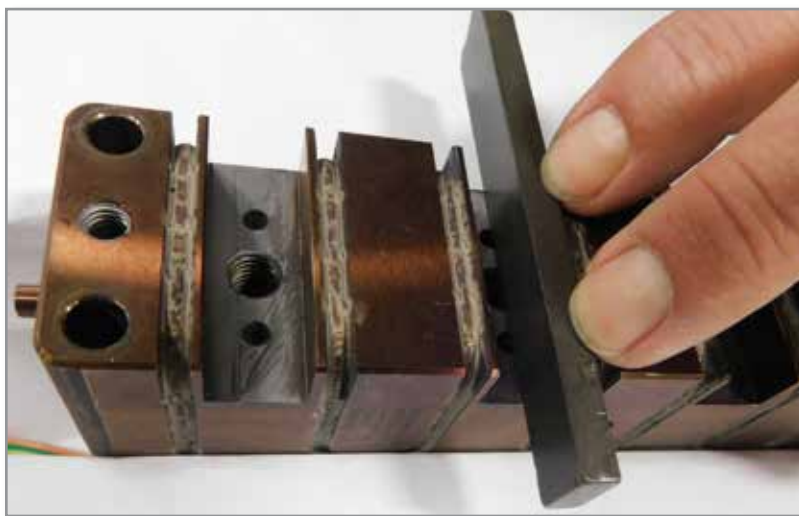

Figure 19-10 Clean manifold interfaces
2. Clean the manifold interfaces with a fine grade (400 or 600 grit) polishing stone. See Figure 19-10.
7. Clean the manifold interfaces on Melt-CUBE using a fine polishing stone. See "Figure 19-10 Clean manifold interfaces" on page 19-21.